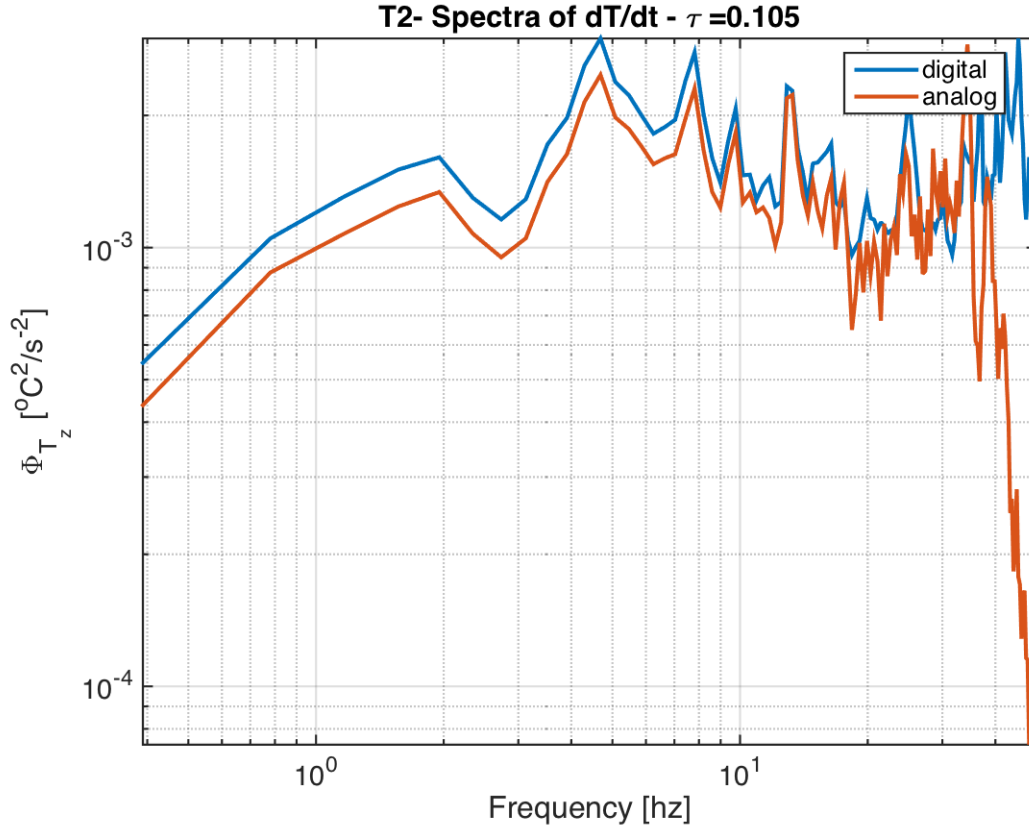

Figure 2: dT/dt spectra for analog (TP) and digital derivatives. Spectra levels should match; if not time-constant may be wrong.
- cast_001_w_dTdtSpectraCheck (Figure 2).